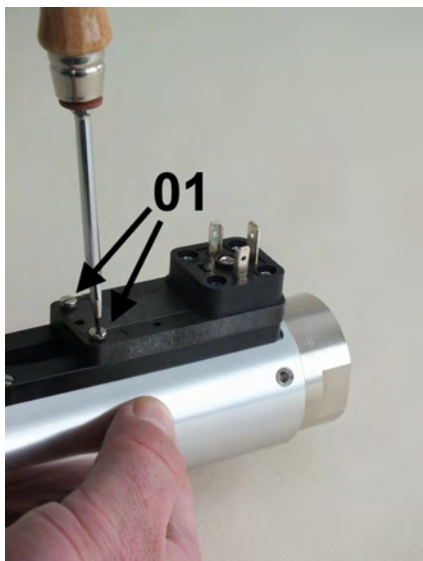

Fig. 54: Loosen set screws
3. Using a flat-bladed screwdriver (Fig. 54/1) loosen the set screws of the switch contact until it can move freely.
11. ▶ Retighten the set screws (Fig. 54/1) observing the proper tightening torque of the screws (↪ Chapter 11.1 "Tightening torque" on page 80).